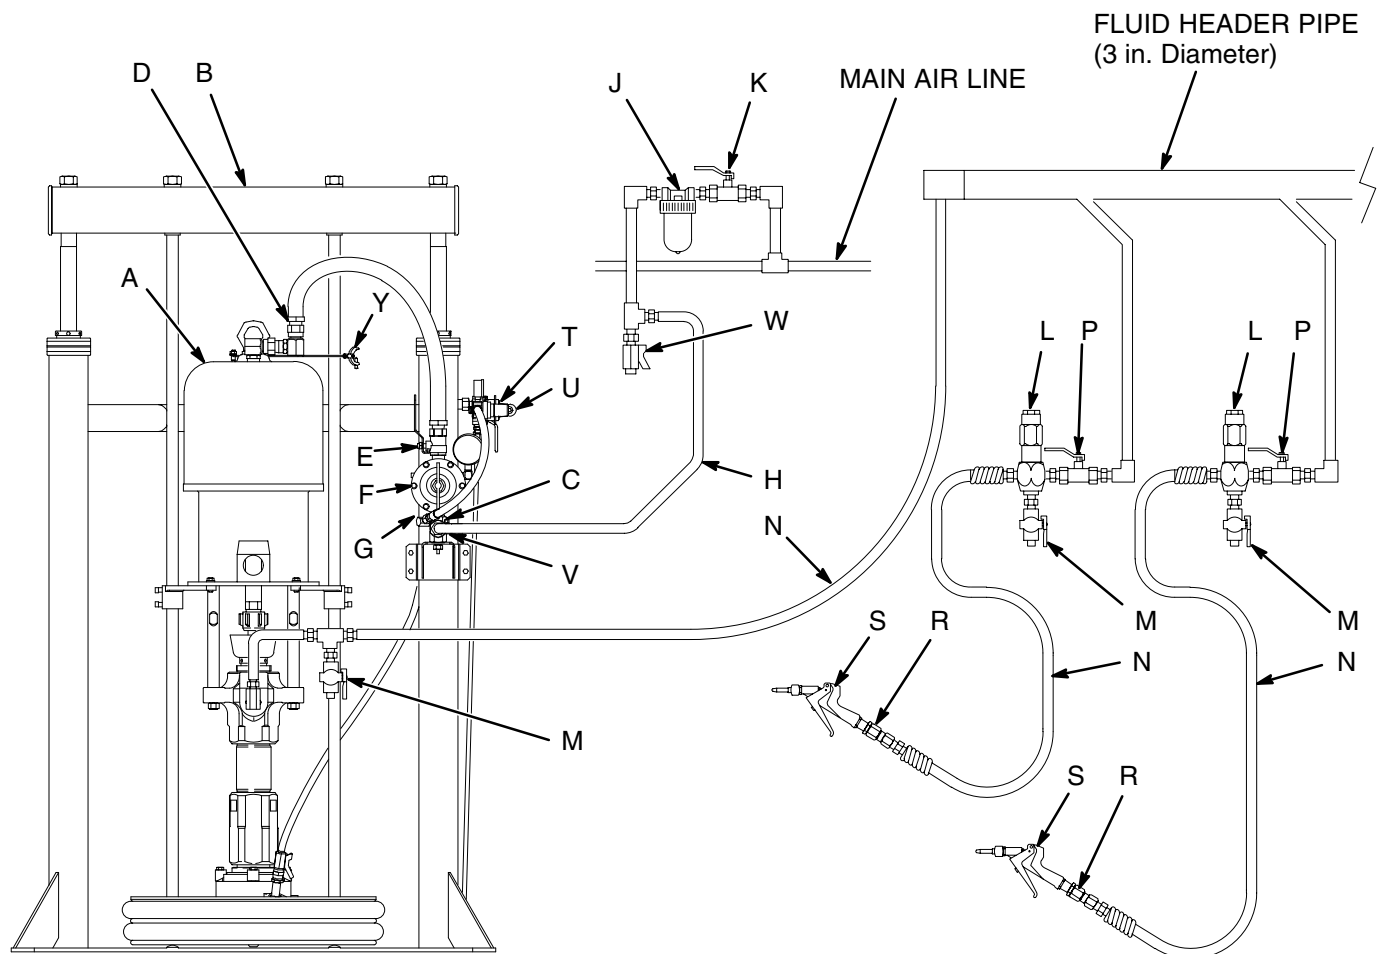

Fig. 3
The Typical Installation shown in Fig. 3 is only a guide for selecting and installing system components and accessories. Contact your Graco distributor for assistance in designing a system to suit your particular needs.
Mount the pump (A) to suit the type of installation planned. Fig. 3 on page 7 illustrates a ram-mounted pump in a multi-gun header system. Pump dimensions and the mounting hole layout are shown on page 31.
Install the following accessories in the order shown in Fig. 3, using adapters as necessary:
Install the following accessories in the positions shown in Fig. 3, using adapters as necessary:
- Install a **fluid shutoff valve (P)** at each gun/valve drop, to isolate the gun/valve and fluid accessories for servicing.
- Install a **fluid drain valve (M)** near the pump fluid outlet, and at each gun/valve station. The drain valves are required in your system to relieve fluid pressure in the displacement pump, hose and gun/valve (see the **WARNING** at left). Drain valves at the gun/valve stations may be mounted in the base of a **fluid regulator (L)**, using an adapter.
- **A fluid regulator (L)** controls fluid pressure to the gun/valve, and dampens pressure surges.
- **A gun or dispense valve (S)** dispenses the fluid. The gun shown in Fig. 3 is a high pressure dispensing gun for highly viscous fluids.
- **A gun/valve swivel (R)** allows freer gun/valve movement.
2. See Fig. 3. Close the air regulator (F).
4. Hold a metal part of the gun/valve (S) firmly to the side of a grounded metal pail and hold the trigger open.